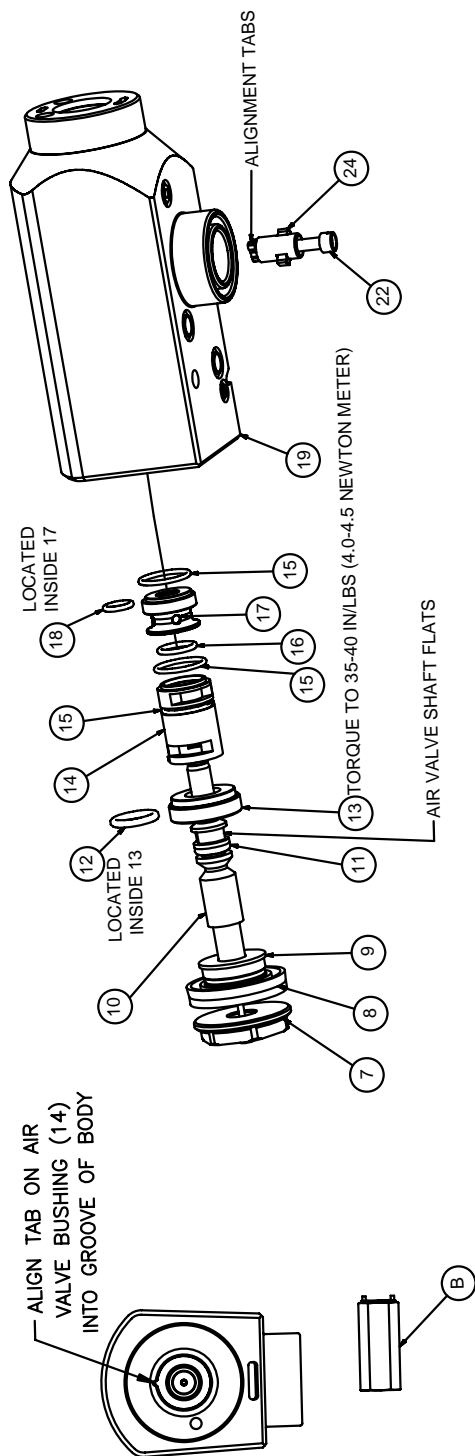

Figure 6: 79138-03 Evolver Applicator Head Assembly
Air Valve Removal (See Figure 6)
6. O-rings [12] and [18] must be installed inside their mating parts (see Figure 6).
8. Reassemble the remaining parts as shown in Figure 6 making sure that the alignment tab on the bushing [14] lines up with the align groove in the body [19].
79138-03 EVOLVER APPLICATOR HEAD ASSEMBLY - PARTS LIST (Figure 6)